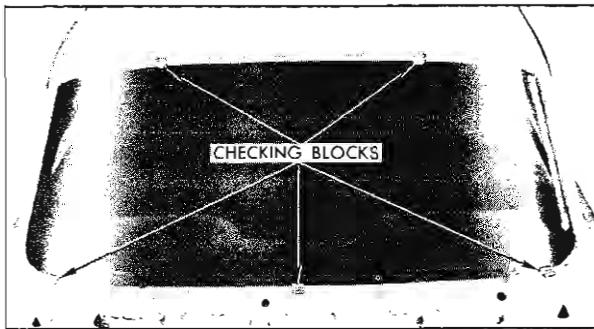

Fig. 11-9 Windshield and Opening Check
4. Install five (5) windshield checking blocks J-8942 to pinchweld flange (Fig. 11-9 and 11-10). Position one block over lower pinchweld flange on each side of body approximately twelve inches (12") inboard from the lower outer corner of the opening. Position final block on lower pinchweld flange in center of windshield opening. Position one block over upper pinchweld flange midway between center block and each outboard block on lower retaining flange.